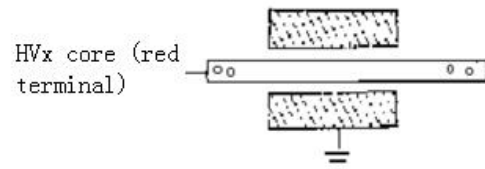

Figure 11 Connection of bushing
(1) Core to end shield and ground
- A. See Figure 11